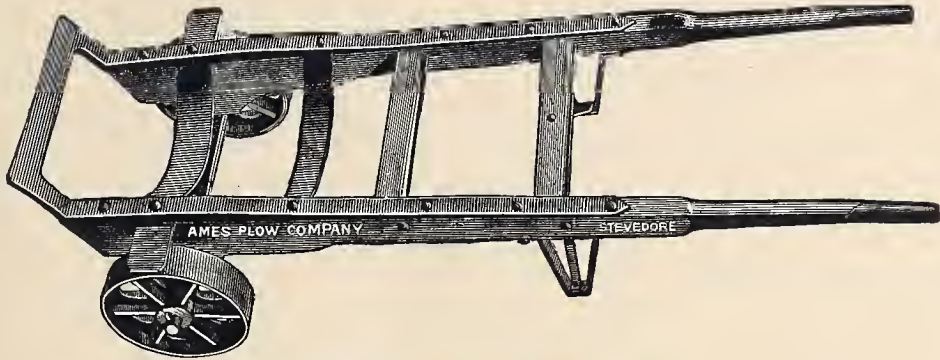

Fig. 507. — Stevedore-Truck.
*The Stevedore-Truck*, represented by *Fig. 507*, is made with long handles, is very heavy, is extra braced, and the iron-work on handles is extended beyond the upper crossbar. The two lower bars are iron, and curved, thus adapting the truck for barrels, casks, bales, etc., as well as other merchandise. It has a large demand for wharf and steamship use.